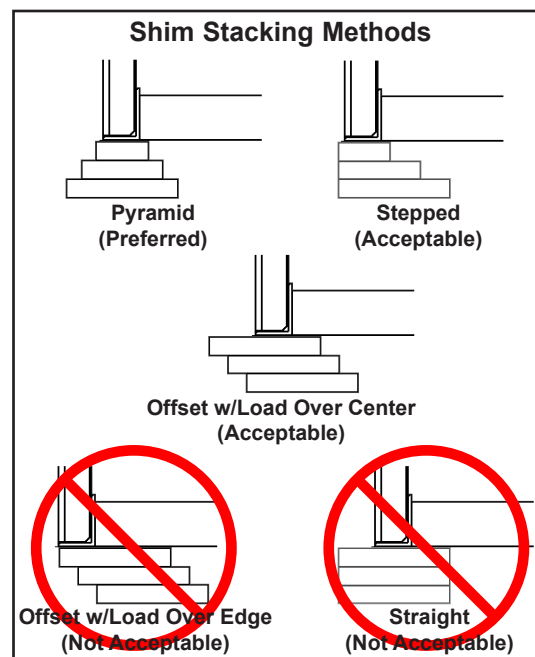

Figure 10
2. Using the results obtained in step 1, create the individual shim stacks on the pit floor at location (**B**). Build each shim stack (**M**) with the top shim having a minimum size of 4-1/2" x 4-1/2" (114.3 mm x 114.3 mm) and each successive lower shim being larger so the shims can be welded together using a fillet weld. If using offset method, make sure load is over center of shim stack, NOT over the edge. DO NOT use straight method. See Figure 10.